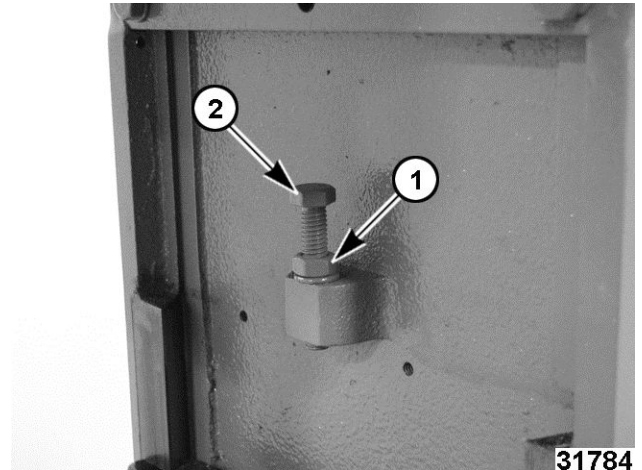

Fig. 68
6. Loosen jam nut (1, Fig. 68).
7. Adjust bowl lift stop screw (2, Fig. 68) until bowl to beater clearance of 0.054" - 0.115" is achieved.